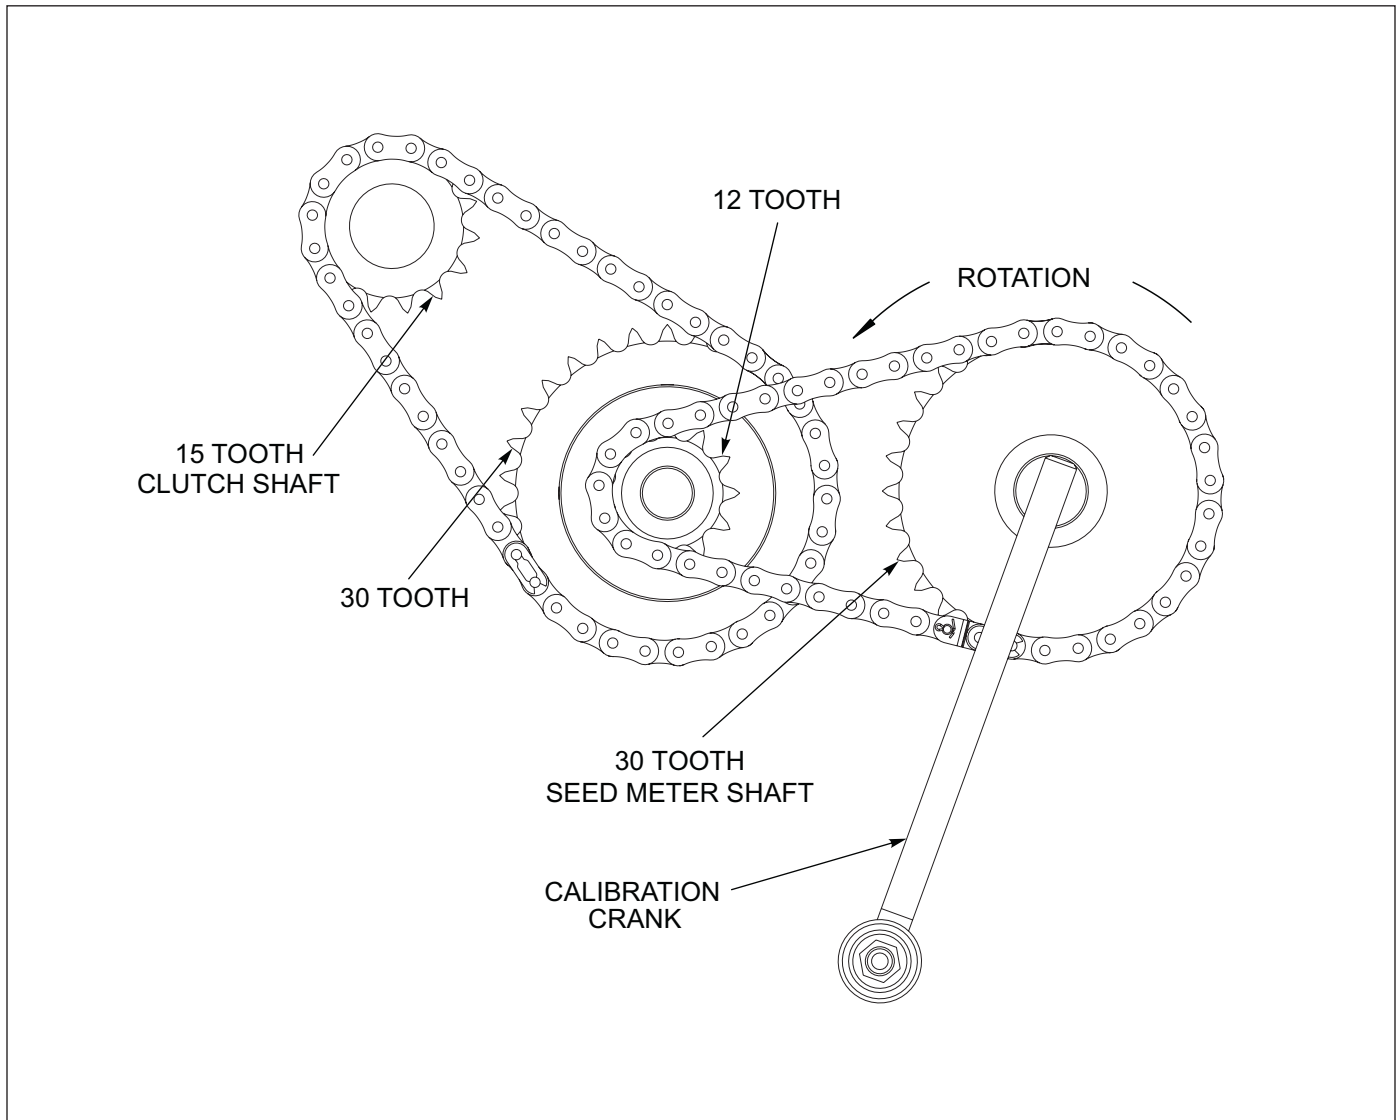

Figure 3-12: Calibration
4. Disengage Clutch. Turn 3/4 Hex on Transmission Shaft 163 revolutions Counter-Clockwise (CCW) with provided Crank, 41 turns may be used if results are adjusted as stated in Step 5. **See Figure 3-12.**